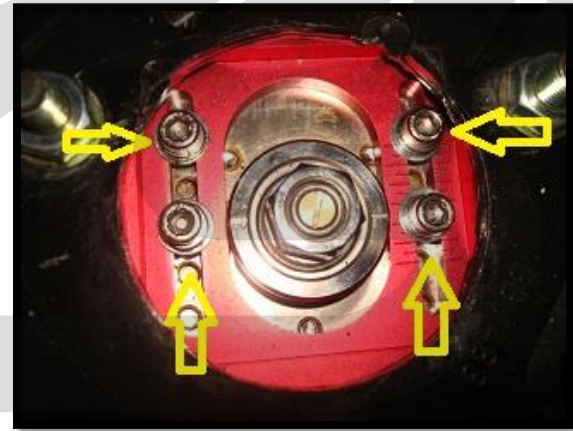

Figure 9b
- a) Loosen the four (4) bolts on the top of the camber plate to adjust camber (See Figure 9b).